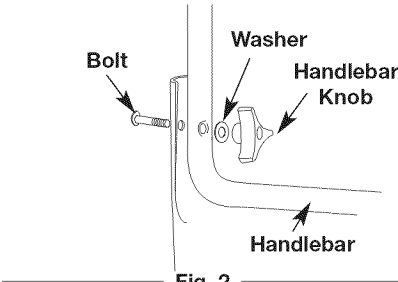

Fig. 2
- Tighten the knobs to secure the handlebars in place (Fig. 2).